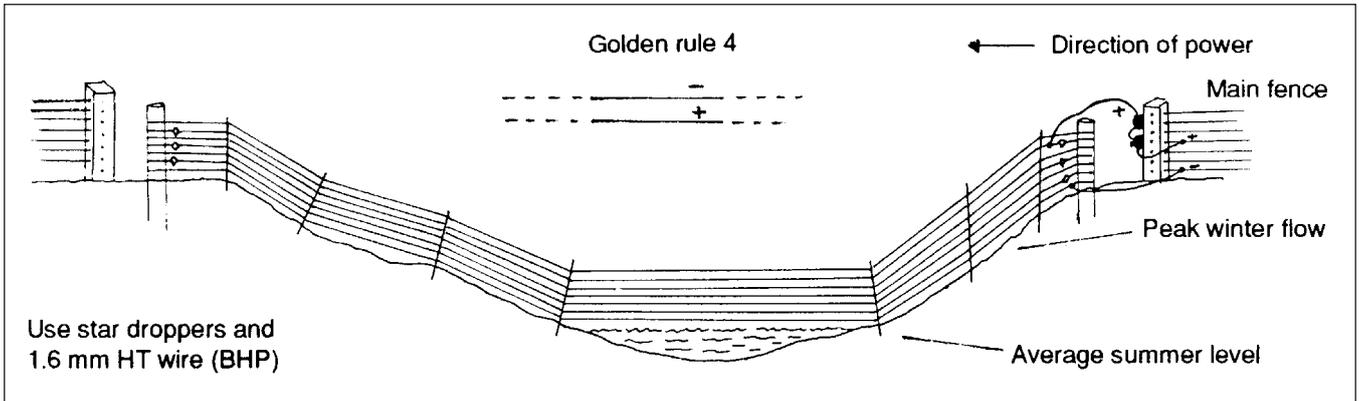

Fig. 3
**Semi-permanent with disposable sections (Fig. 3)** - suited to uneven crossings